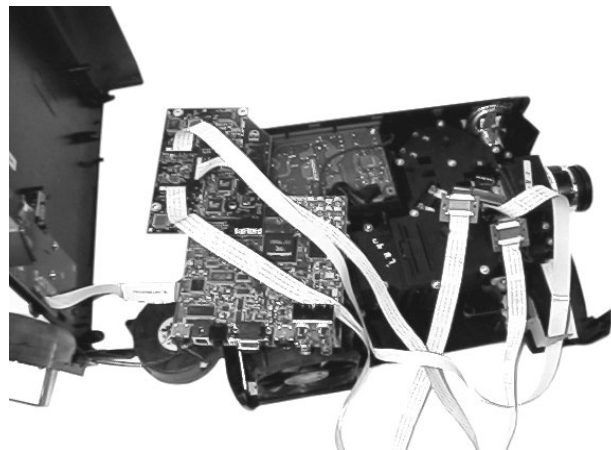

Fig. 12
6. To operate the projector in this situation, connect the SSB and DRB together again, and connect the top-cover, LCD fan and dust filter switch to the SSB. Put some insulation under the SSB and DRB board. Now connect the LCD's to the DRB board by using extension cables (312243540400). (Fig. 12)